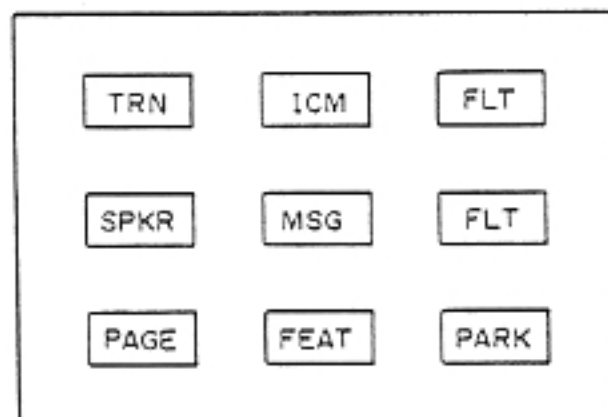

Figure 3.10.4.2.(3)E VP Default Key Assignment
- Stick the marks on operation keys as shown in Figure 3.10.4.2.(3)F when calculator function is used.